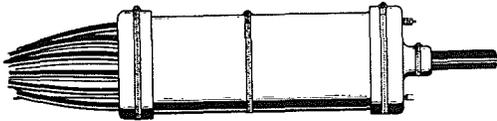

Figure 28. Completed Closure Assembly
7.15 Fasten a hose clamp around each end cap in the recess provided. (Figure 28)